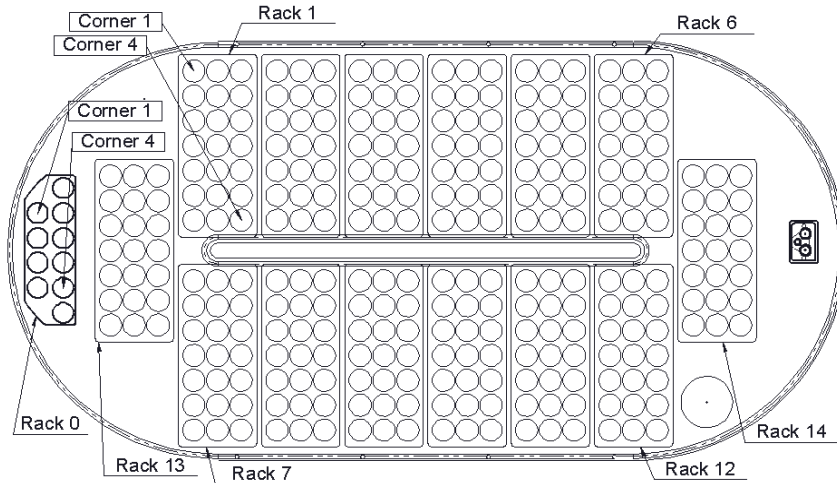

Figure 60: SC-14 Location of Calibration Corners.
- 3) Set the calibration of Racks 0-6 of the autosampler. See Figure 60. For each rack:
- b. Make adjustments if necessary starting with the (Y) then the (X) jog buttons.
- e. Make adjustments if necessary starting with the (Y) then the (X) jog buttons.
- 4) Set the calibration of Racks 7-12, 13, 14 of the autosampler. See Figure 60. For each rack: